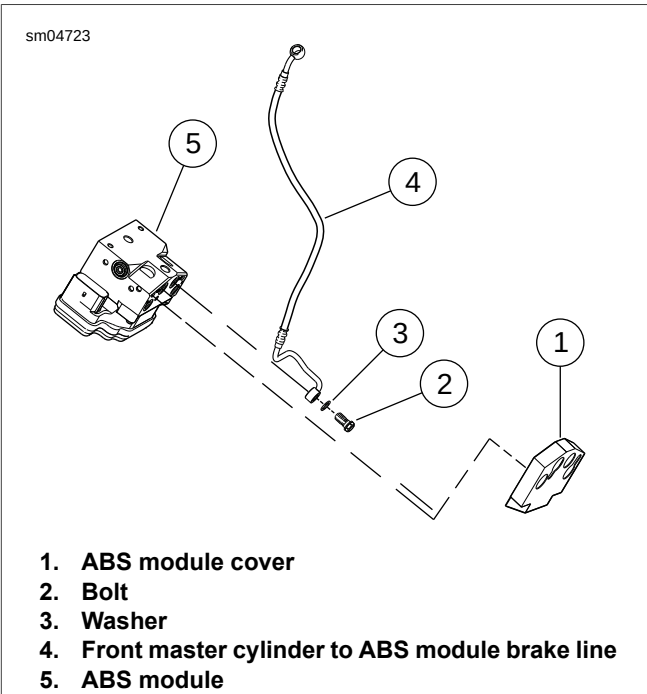

Figure C-12. Front Master Cylinder to ABS Module Brake Line
6. See Figure C-12. Remove banjo bolt to release brake line from MF port of ABS module. Discard washers.
8. Remove banjo bolt (2) to release brake line from master cylinder. Discard washers (3).
9. Remove brake line (4) from motorcycle, using caution to avoid spilling any residual brake fluid on finished surfaces.